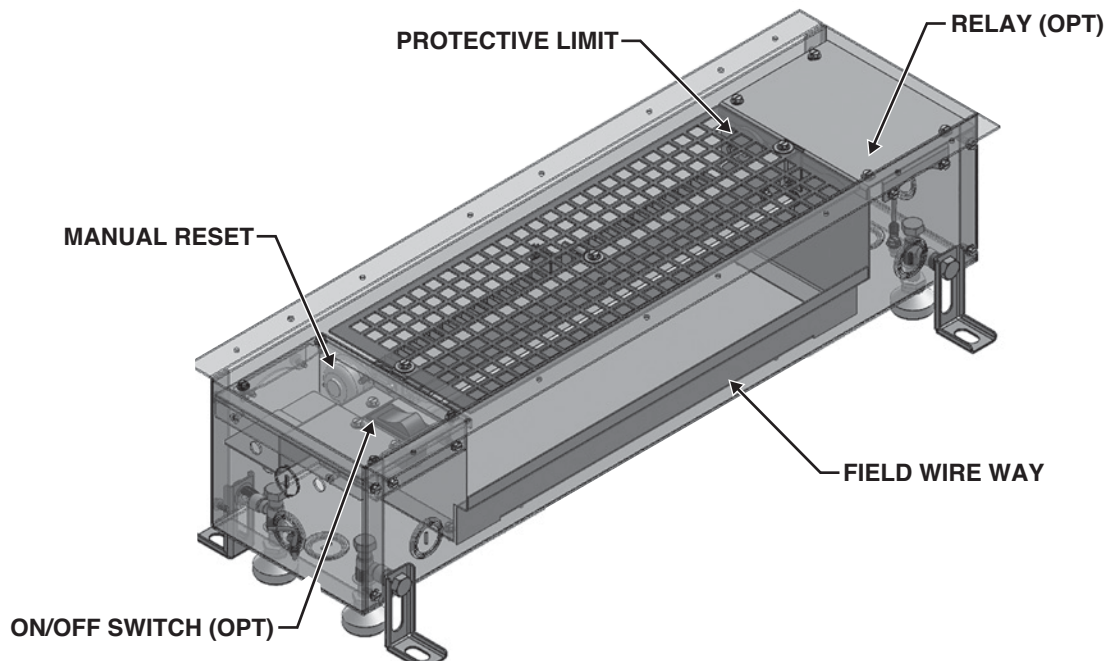

Figure 11A: Product Components
8. Remove construction cover and junction box covers from the heater and remove appropriate electrical knockouts. **Note:** It is suggested to bring supply wiring in via the manual reset junction box (labeled on cover). If this is not possible, there is a wire way opposite the element in the heater box. The supply wire can be fed from the opposite junction box through the wire way. See figure 11A.
- Remove construction cover and junction box covers from the heater and remove appropriate electrical knockouts. **Note:** It is suggested to bring supply wiring in via the manual reset junction box (labeled on cover). If this is not possible, there is a wire way opposite the element in the heater box. The supply wire can be fed from the opposite junction box through the wire way. See figure 11A.
8. Remove construction cover and junction box from the heater and remove appropriate electrical knockouts. **Note:** It is suggested to bring supply wiring in via the manual reset junction box (labeled on cover). If this is not possible, there is a wire way opposite the element in the heater box. The supply wire can be fed from the opposite junction box through the wire way. See figure 11A.